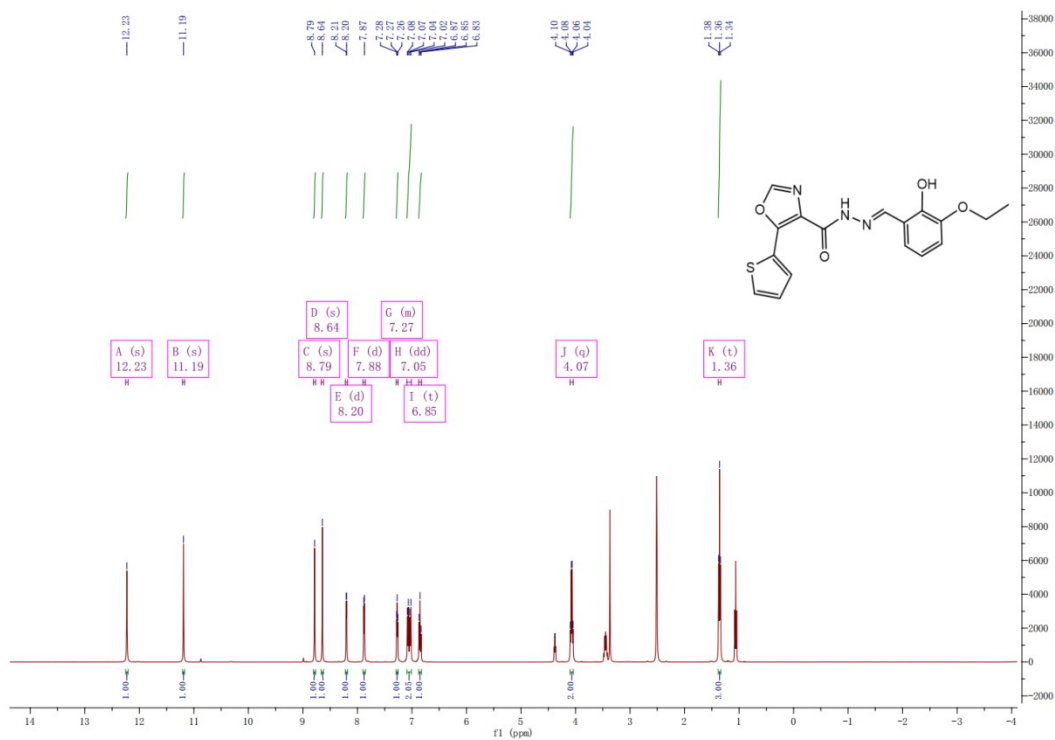

Fig. S5. ^1H NMR in $\text{DMSO-}d_6$ spectrum of L2.
5. **Figure S5.** ^1H NMR in DMSO- d_6 spectrum of **L2**.